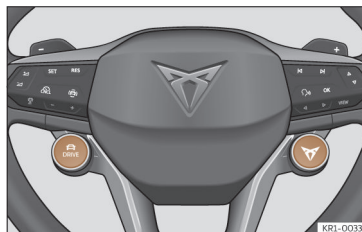

Fig. 108 Multifunction steering wheel: DRIVE and CUPRA buttons for selecting and changing the drive profile.
- **OR:** Press the ¹⁾ button on the multifunction steering wheel >>> **Fig. 108** to activate the **Cupra** drive profile.
- **OR:** Repeatedly press the ^{DRIVE} button on the multifunction steering wheel >>> **Fig. 108** to switch between drive profiles.